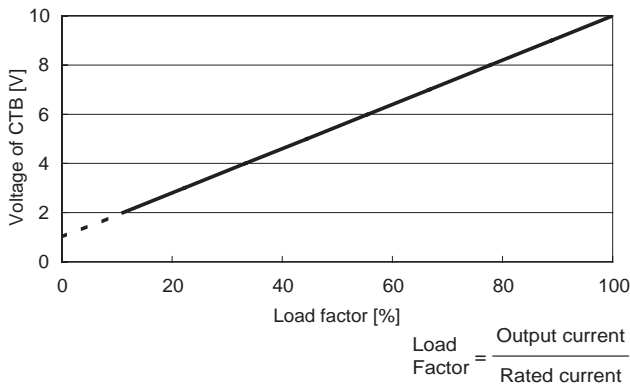

Fig.4.2 Load factor conversion graph
- Fig.4.2 shows the relationship between the voltage of the terminal CTB and the load factor. The output current shown in Fig.4.2 should be used only as a guide.